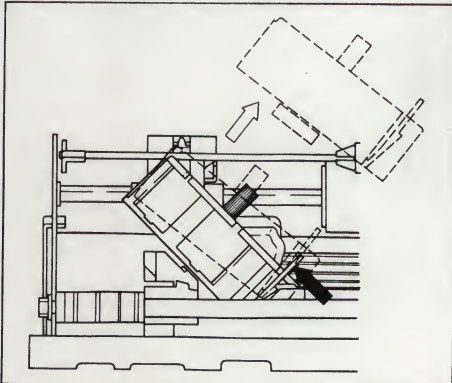

Figure 16.
- (1) Figure 16. illustrates the removal.
- (2) Remove the cartridge by pressing the black lever towards the cartridge, while firmly gripping part B and simultaneously pull the cartridge off. (Figure16.)